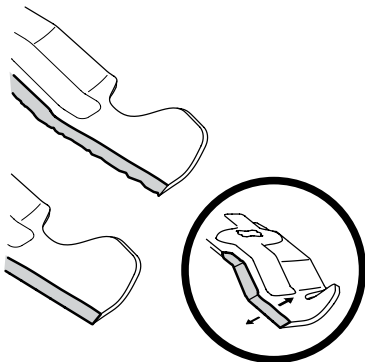

Figure 4-9
5. To properly sharpen the cutting blade, remove equal amounts of metal from both ends of the blade along the cutting edges, parallel to the trailing edge, at a 25°- to 30° angle. Always grind each cutting blade edge equally to maintain proper blade balance. See Figure 4-9.